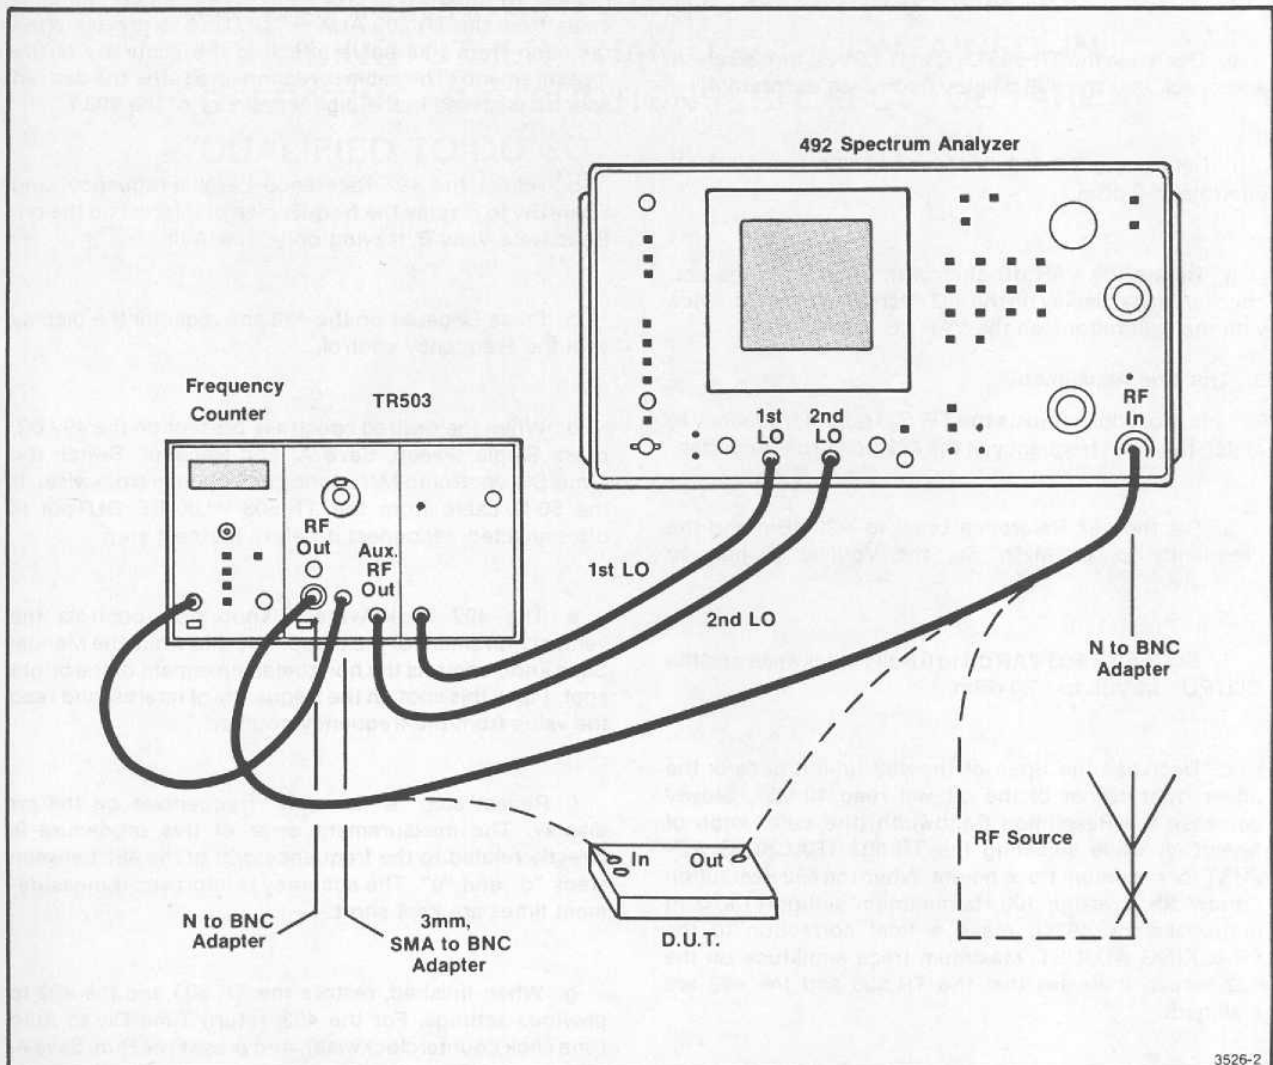

Fig. 2-2. TR 503/492 System with Frequency Counter.
- d. Compare the connections with Fig. 2-2. The dotted lines are used to show the connections used in the
A 492 Spectrum Analyzer with digital storage (option 2) is recommended for this procedure. Referring to Fig. 2-2, connect and operate the system as follows: